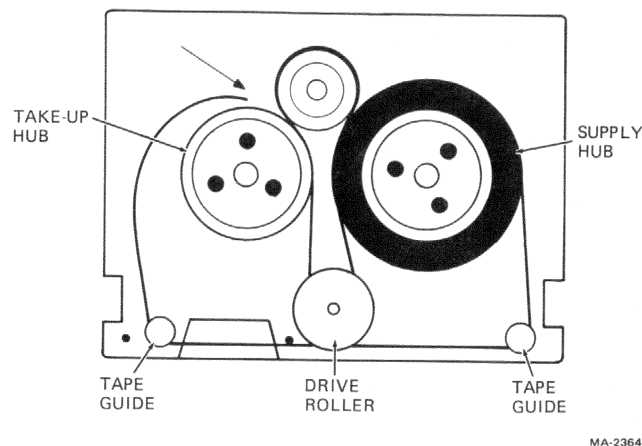

Figure D-5 Threading the Plastic-Base Cartridge
1. Pull several centimeters (a few inches) of tape off the supply hub and through the tape guides (Figure D-5).